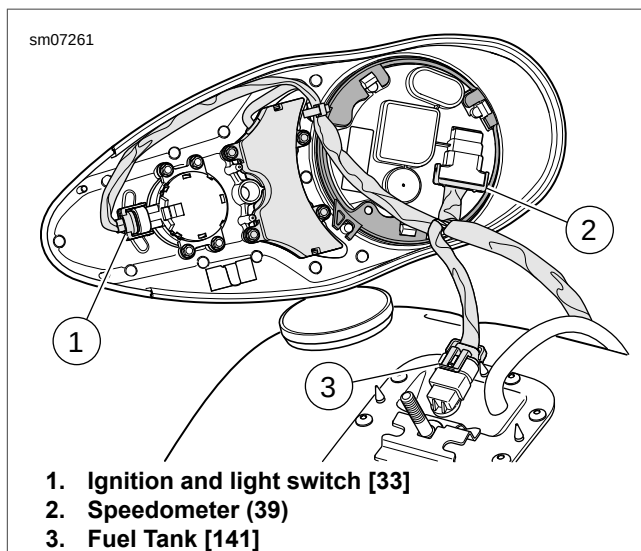
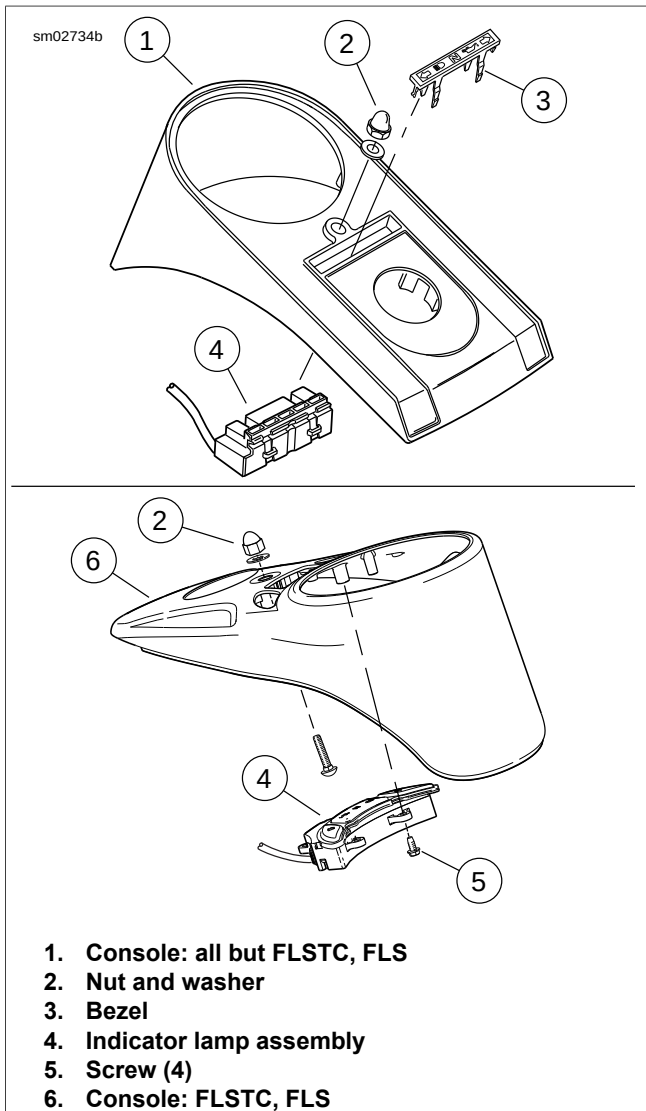

Figure 7-90. Instruments Harness Connectors
Figure 7-91. Indicator Lamp Assembly
3. See Figure 7-90. Remove connectors (1-3).
4. See Figure 7-91. Remove indicator lamp assembly.
- a. **All but FLSTC, FLS:** Squeeze clips of bezel (3) together and gently pry indicator lamp assembly (4) out of console.
- b. **FLSTC, FLS:** Remove screws (5) and gently pull indicator lamp assembly (4) out of console.
1. See Figure 7-91. Attach indicator lamp assembly to console.
- a. **All but FLSTC, FLS:** Make sure clips of bezel (3) engage to secure assembly in place.
- b. **FLSTC, FLS:** Install screws (5).
2. See Figure 7-90. Install connectors (1-3).